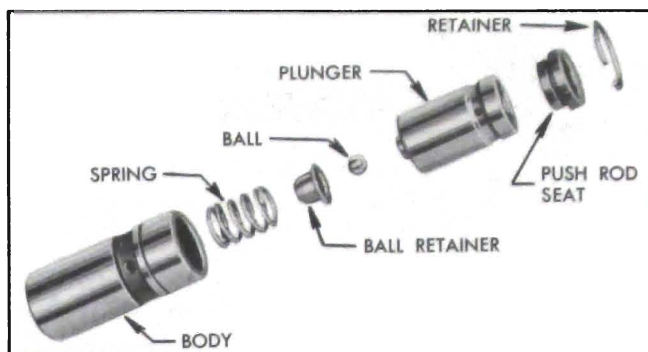

Figure 2-23—Hydraulic Valve Lifter Parts
2. Hold plunger in vertical position with feed hole up, then rinse and install the check ball, ball retainer, spring, and body over the plunger. See parts in figure 2-23.